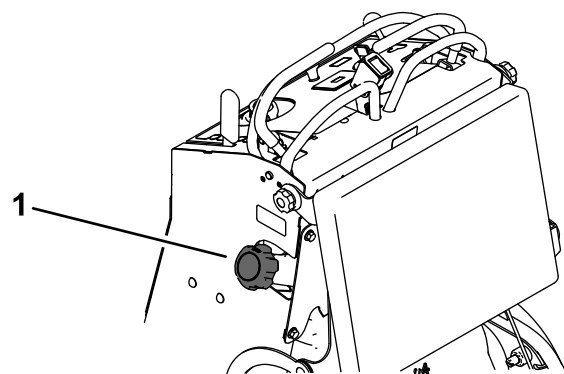

Figure 32
3. Clean around the fuel cap to prevent debris from getting into the fuel tank (Figure 32).
6. Using the syphon pump, drain the fuel into a clean fuel can (Figure 32).